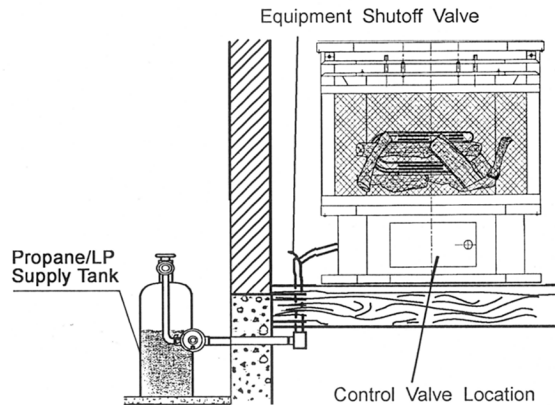
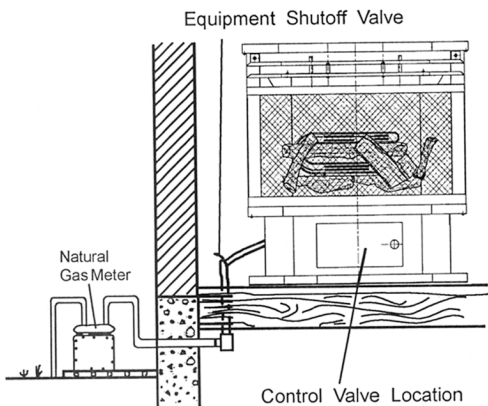

Figure 9.1 -Checking Gas Joints
Figure 9.2 -Checking Gas Joints
7. Check all joints from equipment shutoff valve to control valve (GSP2822 see Figure 9.1 GSN2821 see Figure 9.2). Apply mixture of liquid soap and water to gas joints. Bubbles forming show a leak.